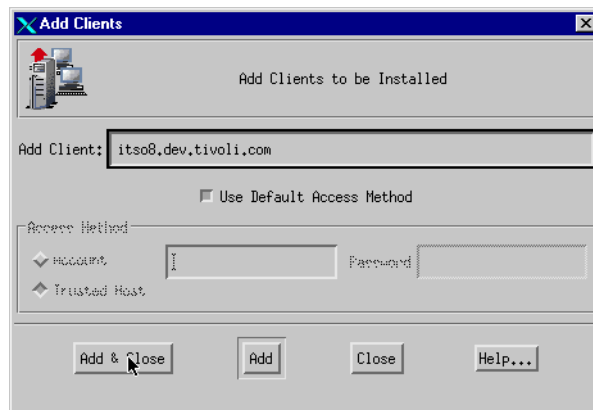

Figure 42. Add Clients
11. In the Add Clients window, shown in Figure 42, type `itso8.dev.tivoli.com` for the node name, and then select **Add & Close**.